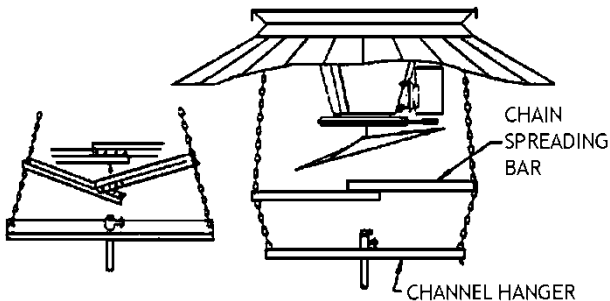

Fig. 34 – Placement & installation of spreader bar
- 87 Place slotted ends of spreading bar on chain as shown and force chains apart by pushing bar straight. See Fig. 34.